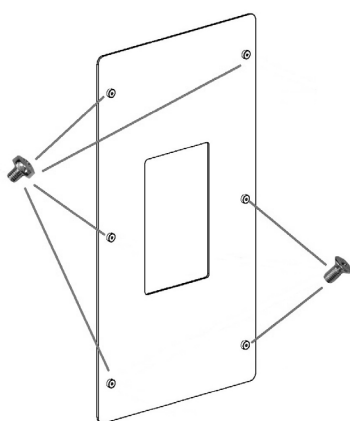

Fig. 40 - Tighten the screws
- Tighten the screws on the bushes on the glass: 4 screws with round heads and 2 screws with flat heads (see **Fig. 40**).